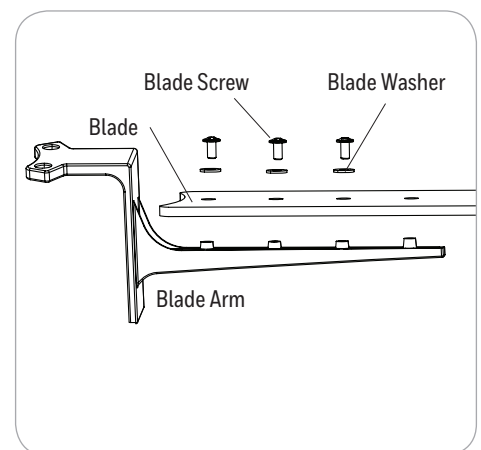

Figure 2.12
12. Partially insert three blade screws, along with their washers, through the blade and into the blade arm. Tighten each blade screw with a Phillips screwdriver (not included), starting with the one in the middle. Repeat this step for the remaining blades and blade arms (Figure 2.12).